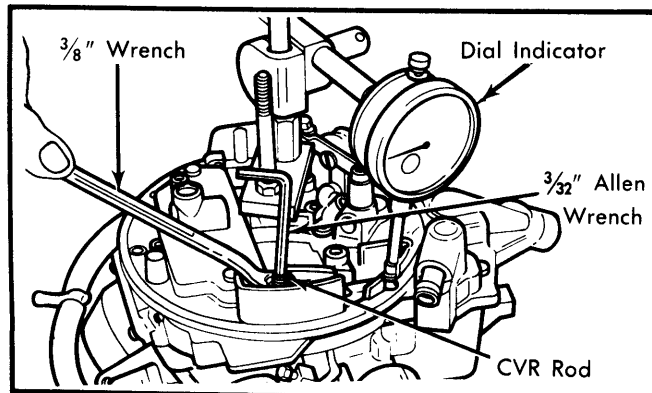

Fig. 8 CVR Adjustment
4) Do not remove dial indicator or reset it to zero. Using stator cap as a weight, push CVR all the way down. Remove stator cap. Dial indicator should read CVR specification. See Fig. 8. To adjust, hold CVR nut with a $\frac{3}{8}$ " wrench. Turn CVR rod with